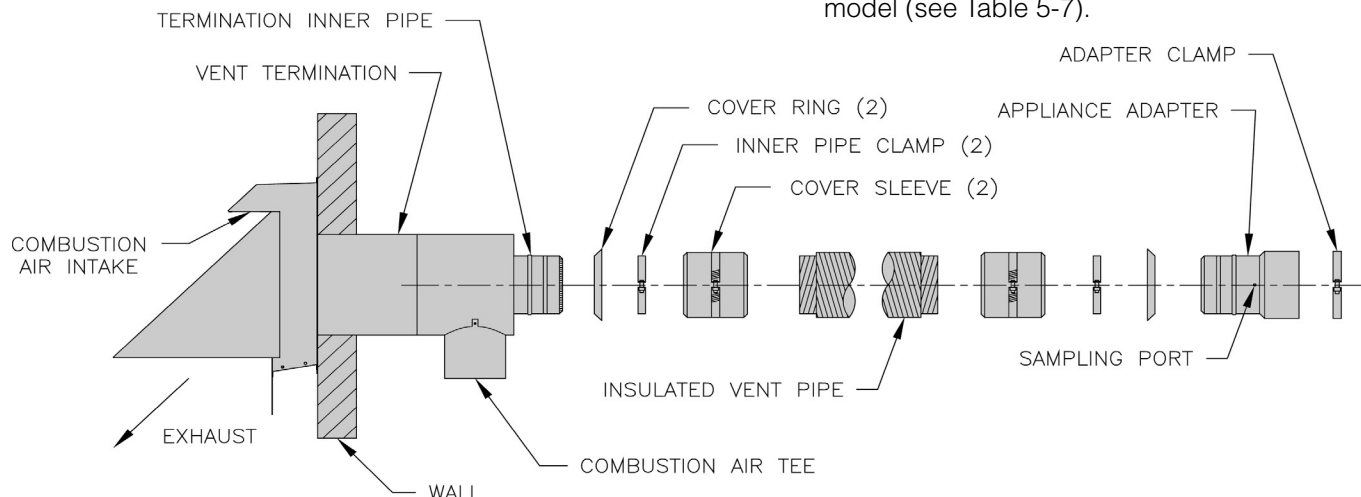

Figure 5-6: FDVS Component Breakdown
2. Minimum Draft at Breech (Canopy) – The draft induced by a chimney must create at least a pressure of 0 (zero) inches water column (" w.c.) at the pressure tapping on the canopy mounted on rear of boiler (see Figure 5-6). The pressure at the canopy **cannot** be positive since this could create a condition that allows flue gas by-products to escape from the draft regulator. A negative pressure reading up to -.03 inches water column is acceptable for proper operation. (See Tables 14-1 and 14-2) Burner Specifications at the rear of this manual for more details)
3. After completing assembly of the flexible double wall insulated vent pipe to the vent termination inner pipe (see Figure 5-6 and the following Steps), apply the supplied high temperature sealant to seal around the inner pipe protrusion thru the vent tee cover pan, around the joint between the vent tee collar and the vent tee body, and, seal or tape the joint between the vent termination outer pipe and the vent tee body.